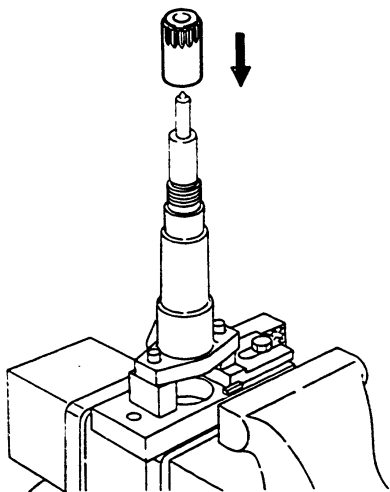

**Fig. 18 Positioning the nozzle**
3. Position the nozzle on the nozzle holder by inserting the two nozzle holder locating pins into the holes in the nozzle. (Fig. 18).